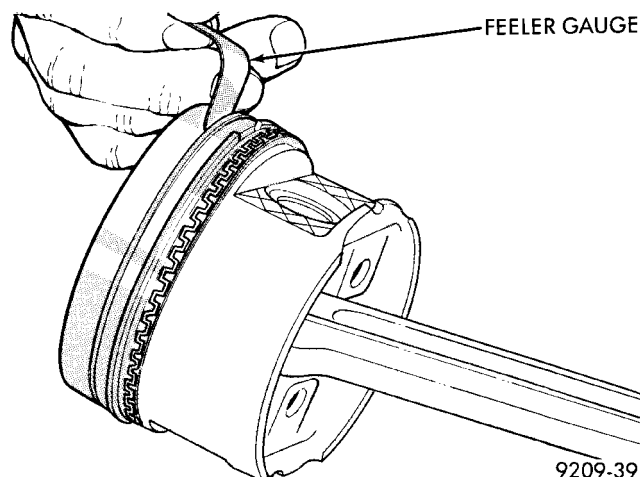

Fig. 6 Piston Ring Side Clearance
(2) Check piston ring to groove side clearance (Fig. 6). Refer to specification (Fig. 7).